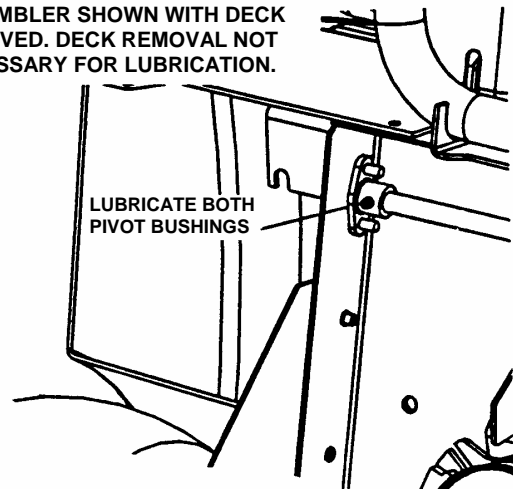

FIGURE 3.9
- d. Lubricate both pivot bushings with three shots of general purpose grease from grease gun. See Figure 3.9